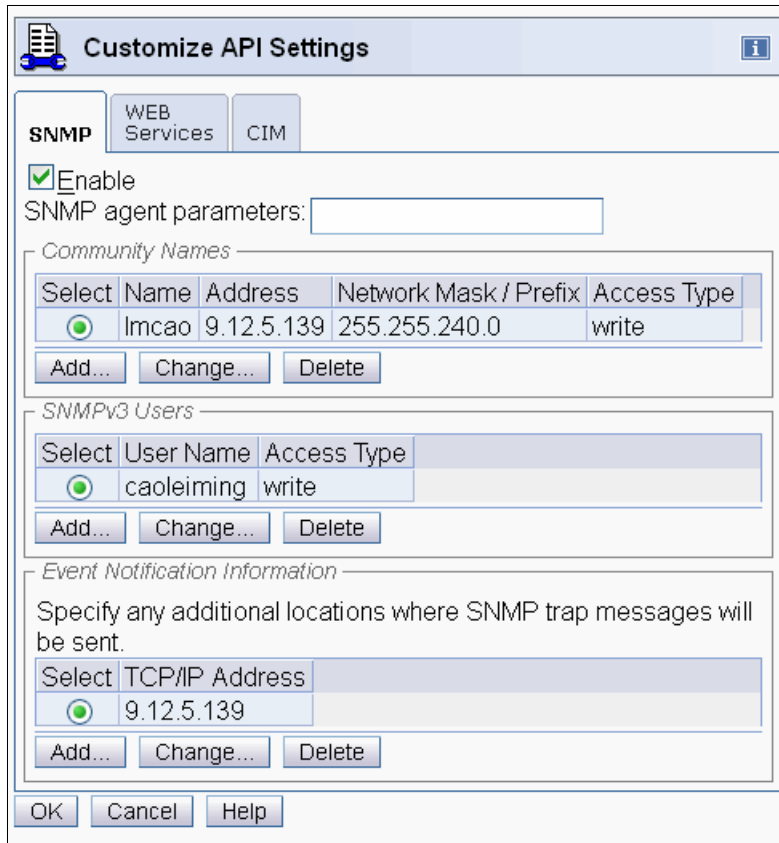

Figure 3-19 HMC and SE: Customize API Settings - SNMP
Figure 3-19 on page 67 shows the Customize API Settings window, which is used to add SNMP information.
1. From the SNMP tab you can enable SNMP APIs and add, change, or delete community names, SNMPv3 users and event notification information. See Figure 3-19.